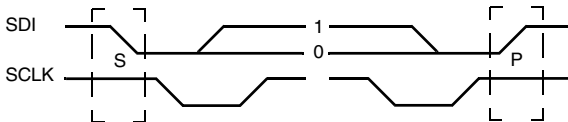

Fig. 2-3: Example of an I²C protocol for the DAC 3560C (MSB first; data must be stable while clock is high)
Fig. 2-3 shows I²C bus protocols for write and read operations of the interface; the read operations require an extra start condition and repetition of the chip address with the device read command (DR). Fields with signals/data originating from the DAC 3560C are marked with a gray background.